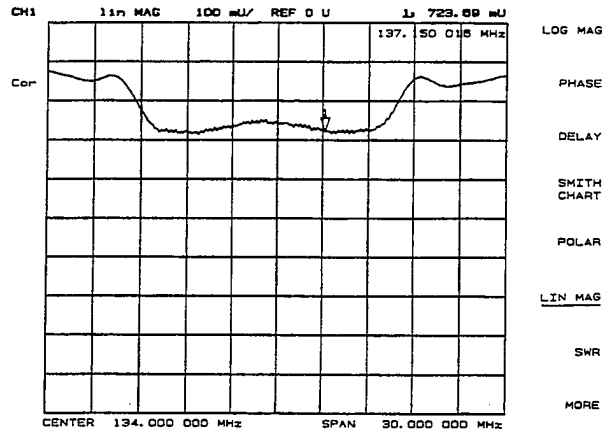

Figure 7-14. Linear Magnitude Format
**[LIN MAG]** (LINM) displays the linear magnitude format (Figure 7-14). This is a Cartesian format used for unitless measurements such as reflection coefficient magnitude  $\rho$  or transmission coefficient magnitude  $\tau$ , and for linear measurement units. It is used for display of conversion parameters and time domain transform data.